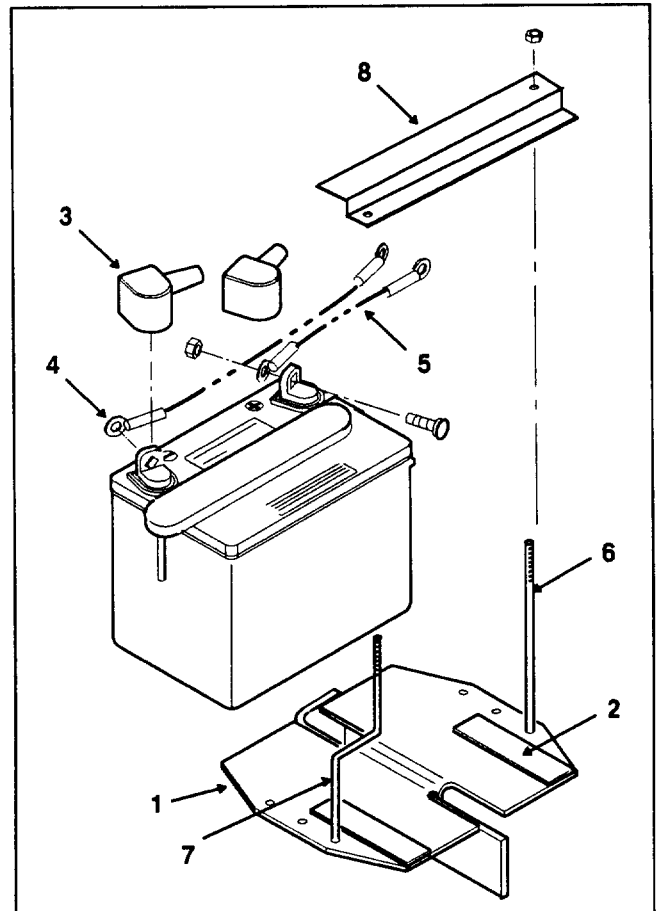

Figure 14
4. Position battery onto holder with terminal posts toward engine (Fig. 14).
7. Mount battery to holders with a bent support rod, a straight support rod, a battery clamp and (2) locknuts. Position support rods in mounting holes as shown in fig. 14. Tighten locknuts so battery is held securely in position and will not slide. DO NOT OVERTIGHTEN.